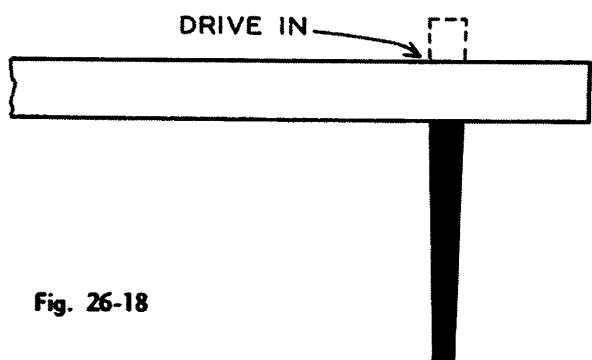

Fig. 26-18
5. Press in until pin is flush with bottom of fork, figure 26-18.